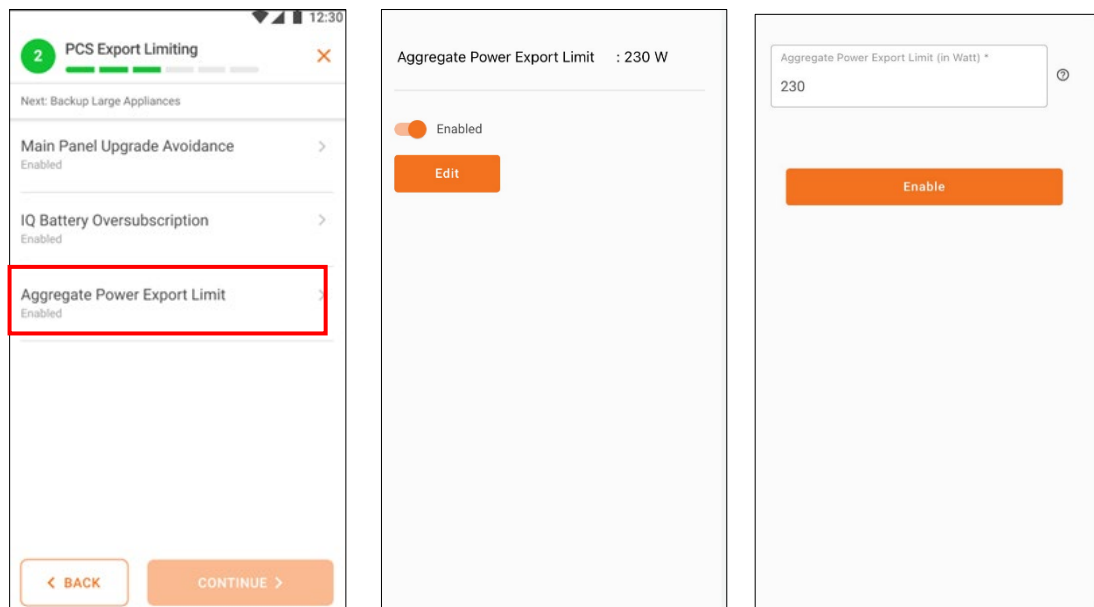

Figure 25: Aggregate Power Export Limit configuration
On the Configuration screen for the feature, as shown in Figure 25, the installer must input the **Aggregate Power Export Limit (W)** and press the **Enable** button to enable the feature.